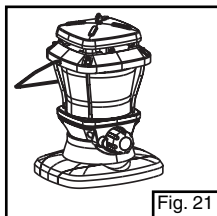

Fig. 21
■ Lantern can be placed in base for secure storage. (Fig. 21)